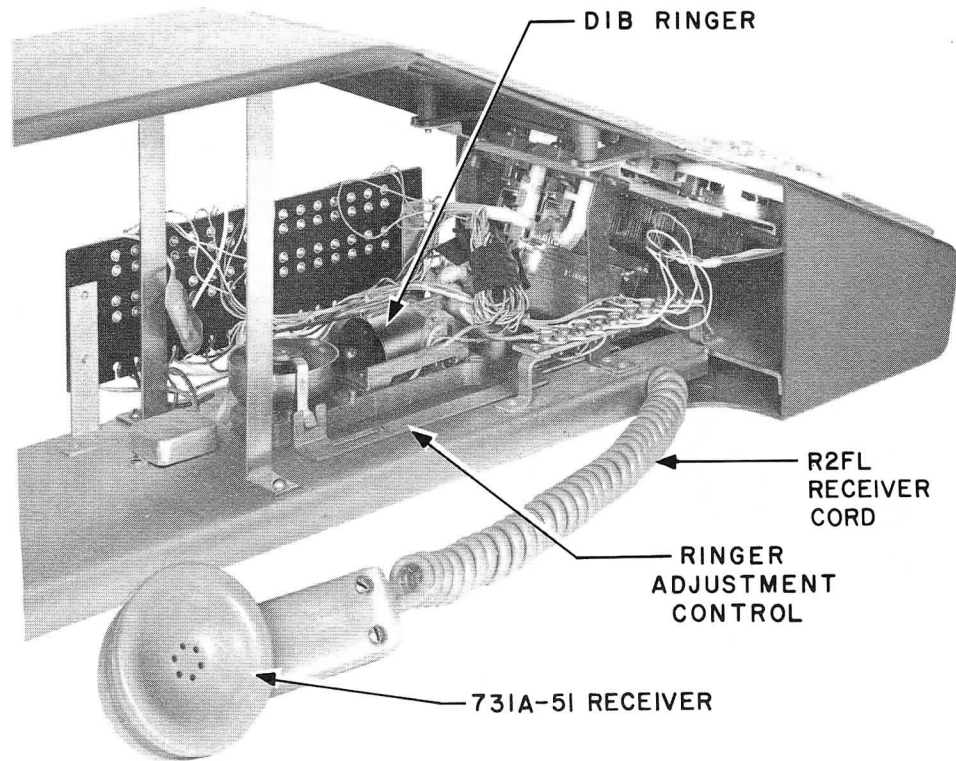

Fig. 3 - 689B Subscriber Set, Side View
**2.03** This set has the same general appearance as the 689A but is equipped with two 598D keys (Fig. 3 and 4).